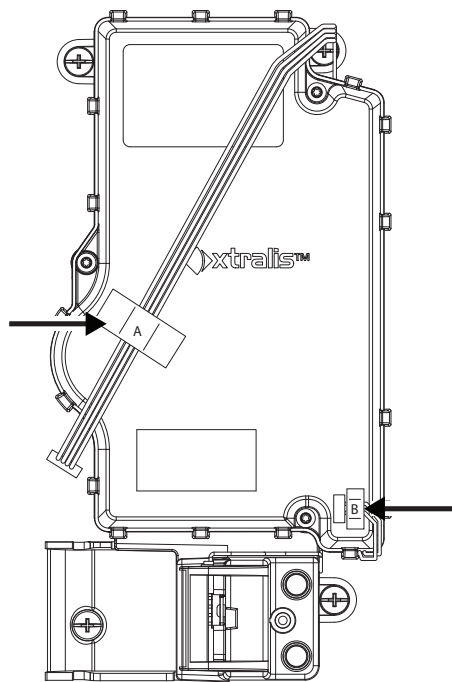

Figure 7-14: Position the Chamber looms
2. Position the chamber looms (A) and (B) as shown in Figure 7-14.